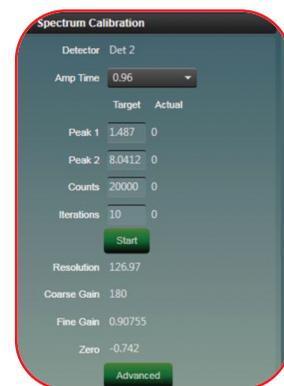

Figure 3. Calibration panel in TEAM™.
- Choose the amp time and press Start (Figure 3).